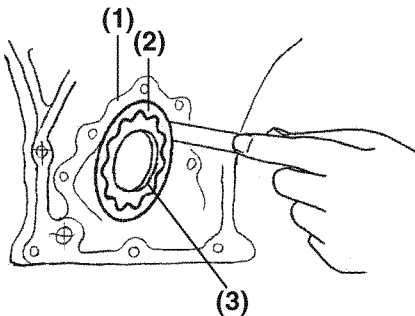

Figure 8-3
- (a) Insert a feeler gauge between the outer rotor (**Figure 8-3, (2)**) and the oil pump cover and measure the outside diameter gap.